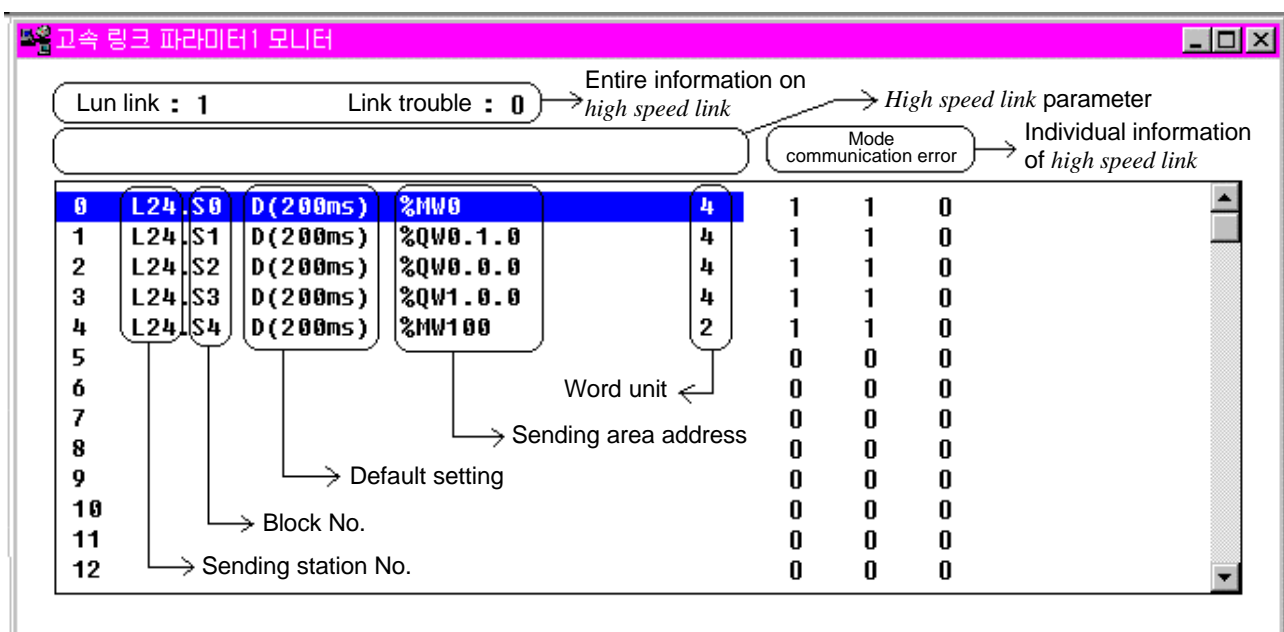

Fig. 6.2.7(E) Monitor screen of *high speed link* parameter(Example)
The values monitored in Fig. 6.2.7(E) mean the following :